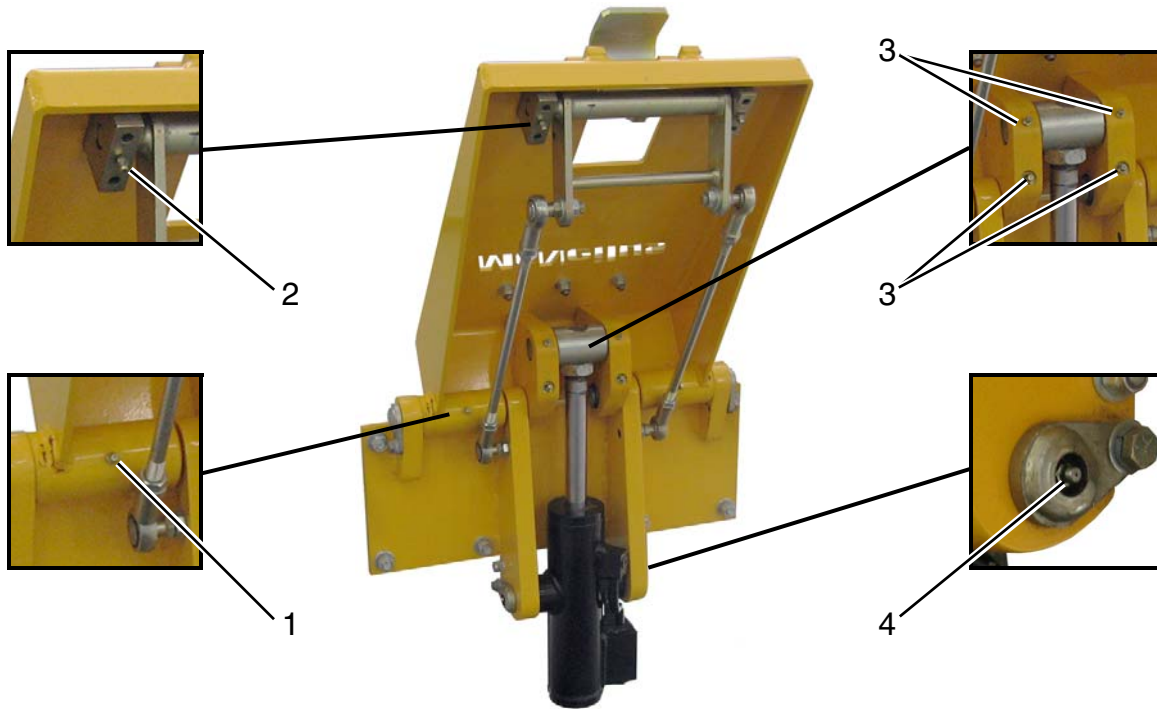

Figure 1
There are a total of ten (10) grease fittings for lubrication of the bushings. Two (2) grease fittings (**Figure 1, 1**) are located in the face plate hinges to lubricate four (4) spring bushings. Two (2) grease fittings (**Figure 1, 2**) are located in the latch hook mounting blocks to lubricate the clamp weldment bronze bushings. Four (4) grease fittings (**Figure 1, 3**) are located in the left-hand and right-hand tangs to lubricate four (4) cylinder rod and pin spring bushings. The two (2) remaining grease fittings (**Figure 1, 4**) are located in the cylinder mounting pins to lubricate two (2) spring bushings in the cylinder.